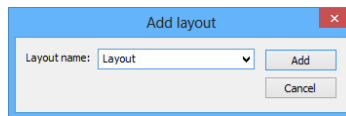

Figure 9 – Add layout dialog
2. Enter the new layout name in the **Add layout** dialog (see Figure 9).